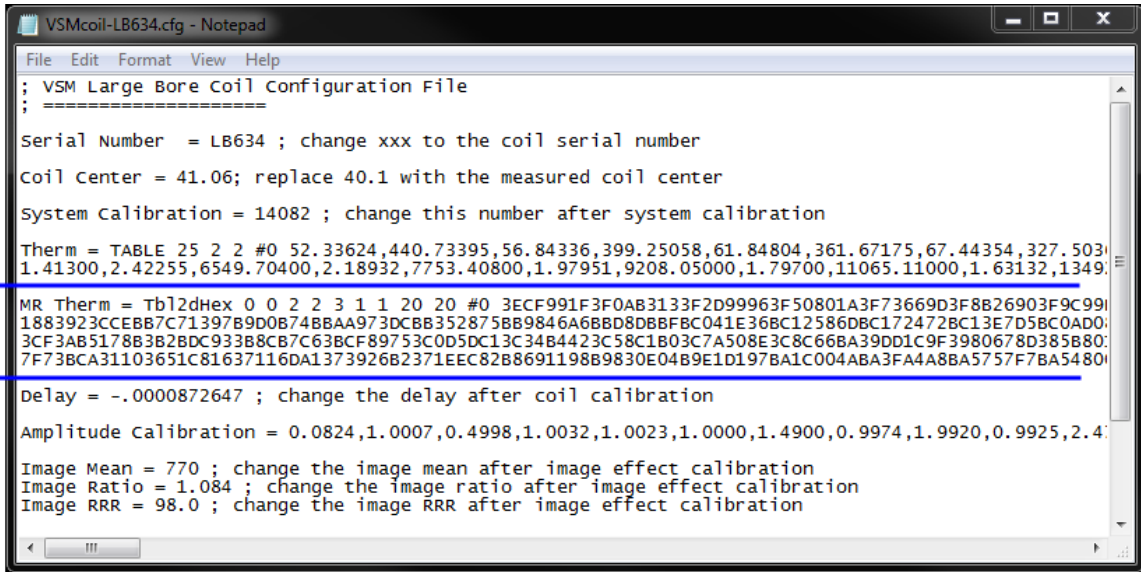

Figure 2. VSM coil calibration file with MR table.
6. The file should contain an MR table as shown inside the blue lines in Figure 2. Depending on the details of the file before you added the MR table, it may look slightly different than the figure.